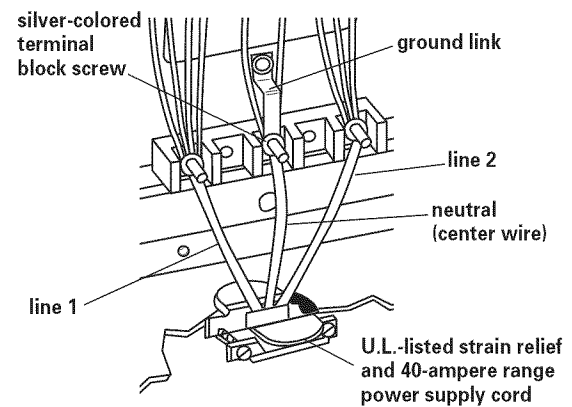

Figure 3
7. Use the brass terminal nuts attached to the inside of the terminal block cover to connect the neutral wire (center wire) to the silver-colored terminal screw on the terminal block. See Figure 3.
8. Connect the other two wires to outer terminal screws on the terminal block. See Figure 3.